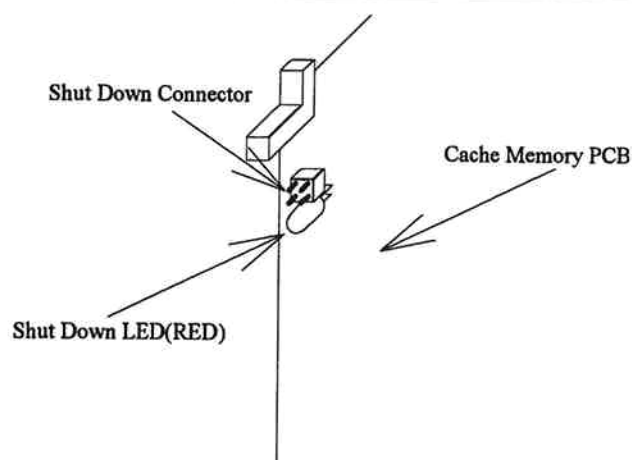

Fig. 3.4.1.5.2-1 Location of the Shut Down LED
- a. Check the Shut Down LED on the Cache Memory PCB in the Cache Box referring to Fig. 3.4.1.5.2-1 and Table 3.4.1.5.2-1. See "Connection of Shut Down Jumper (INST03-2600)" if the Shut Down LED is not on.